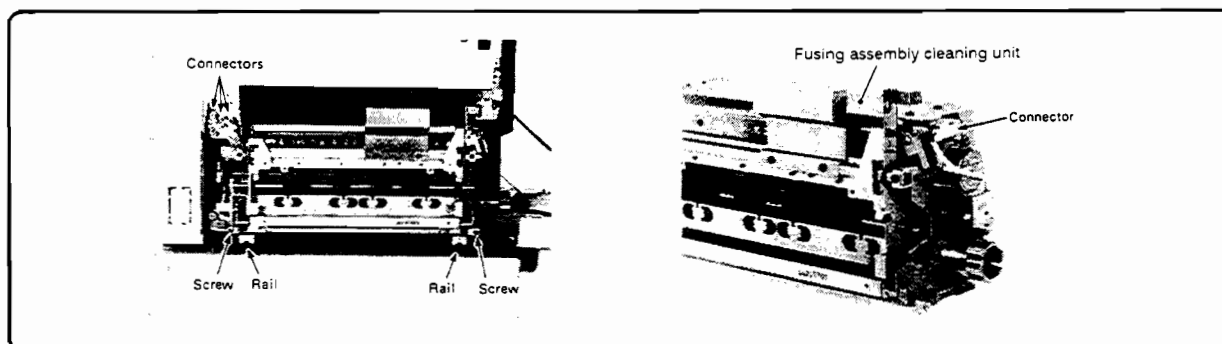

Figure 6-75. Removing the Fusing Assembly
4. Remove the two screws at the bottom corners of the Fusing assembly (Figure 6-75).
5. Pull out the rail below each side of the delivery unit (see Figure 6-75); then slide the assembly out along the rails. Lift the assembly up and out to remove.